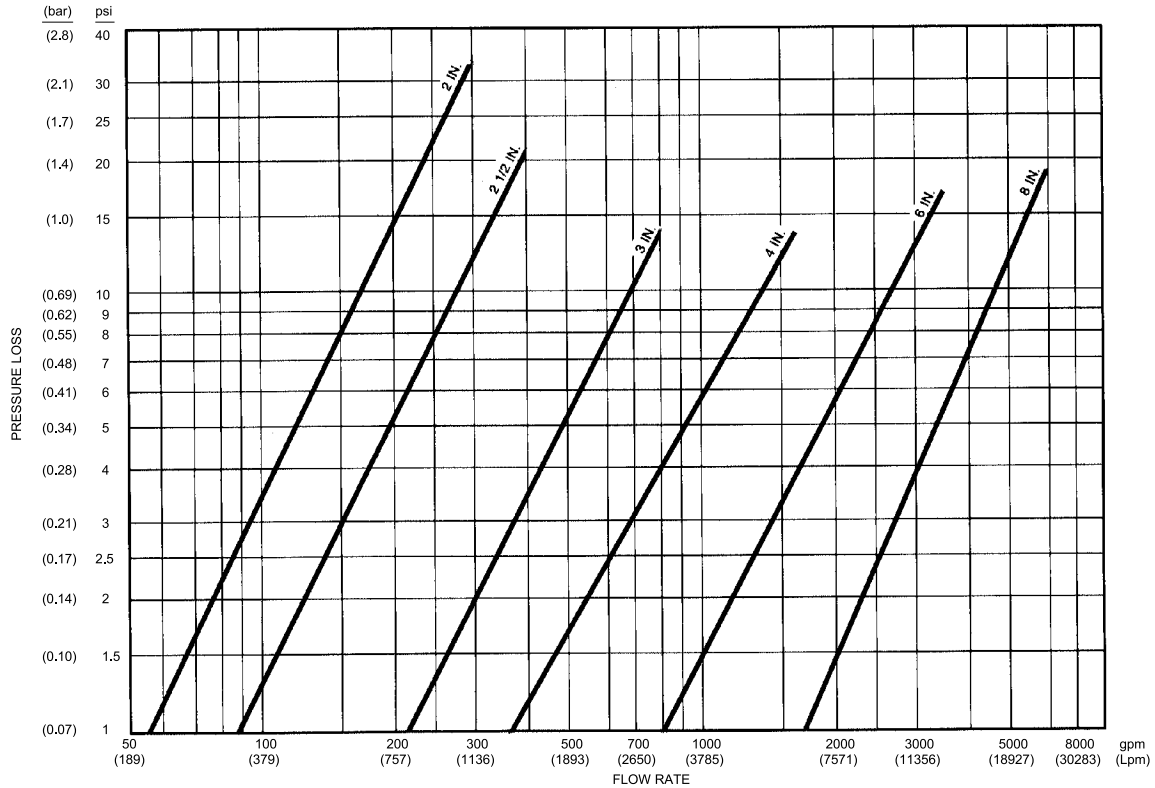

Figure 2: Friction Loss Curves (Through Proportioner)
- Foam concentrate inlet pressure must be minimum 15 PSI higher than water inlet pressure and max 50 PSI higher at concentrate controller (10).
- Each ILBP shall include 4-5 pipe diameters of straight pipe unobstructed upstream and downstream of concentrate controller (10).
- For hydraulic loss due to flow, see Figure 2.
- If installed in a horizontal header, the check valve (3) must be oriented so that the clapper is perpendicular to the floor and access hole is facing up.